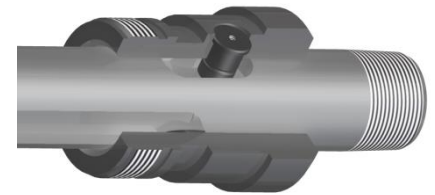

Fig. 6
- L-1.23) Screw rubber mandrel cap (19) onto lower rubber mandrel (31).
- L-1.24) Screw body extension (28) into drag block body (18) (**NOTE₇**: Left-hand threads).
- L-1.25) Screw set screws (37) into drag block body (18). Move drag block retainer (21) to access threaded holes as necessary.
- L-1.26) Move body extension (28) and drag block body assembly up and out-of-the-way temporarily.
- L-1.27) Install J-pin body (23) onto J-slot mandrel (20).
- L-1.28) Align holes in J-pin body (23) with lower landing in slot in J-slot mandrel (20). Install J-pins (3) into J-pin body (23) (Fig. 6).
- L-1.29) Slide drag block body assembly and body extension (28) down to J-pin body (23). Screw body extension (28) onto J-pin body (23) (**NOTE₇**: Left-hand threads).
- L-1.30) Screw set screws (36) into body extension (28).